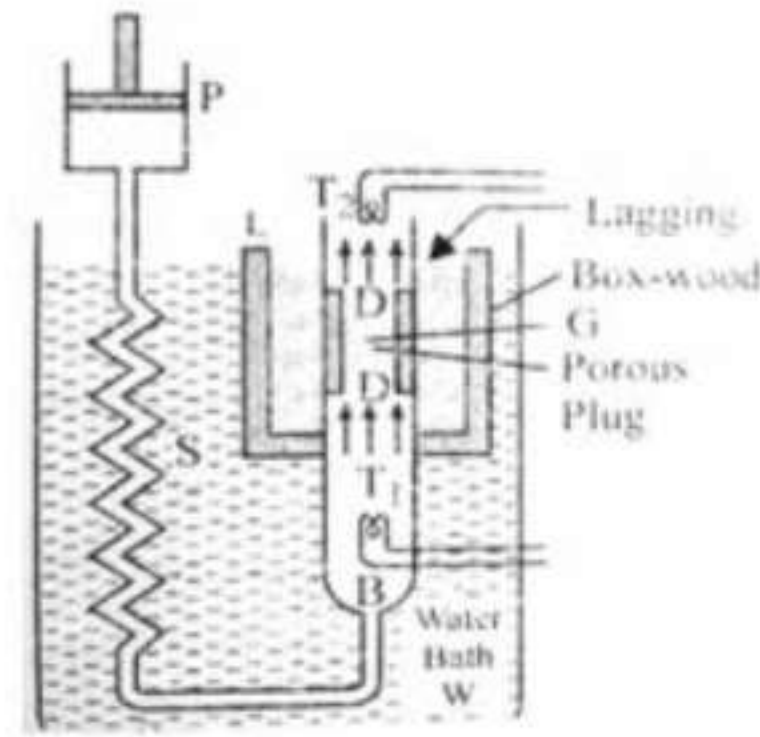

Figure 4.9: Porous-Plug Experiment
**Construction :** Joule in collaboration with Thomson [Lord Kelvin] devised a very sensitive technique known as Porous Plug experiment. The experiment set up of porous plug experiment to study the Joule-Thomson effect is shown in fig. 4.9. It consists of the following main parts.